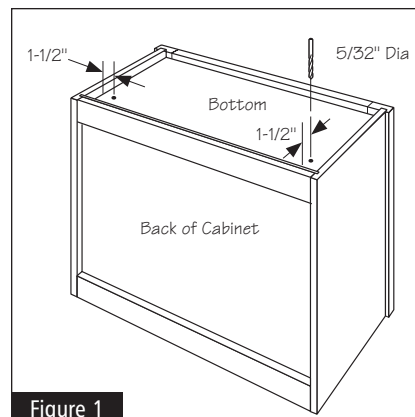

Figure 1
- 1** Drill two 5/32" holes through the bottom of the Cabinet. The holes should be drilled 1-1/2" in from each side of the cabinet and 1-1/2" in from the back of the Cabinet. See Figure 1.